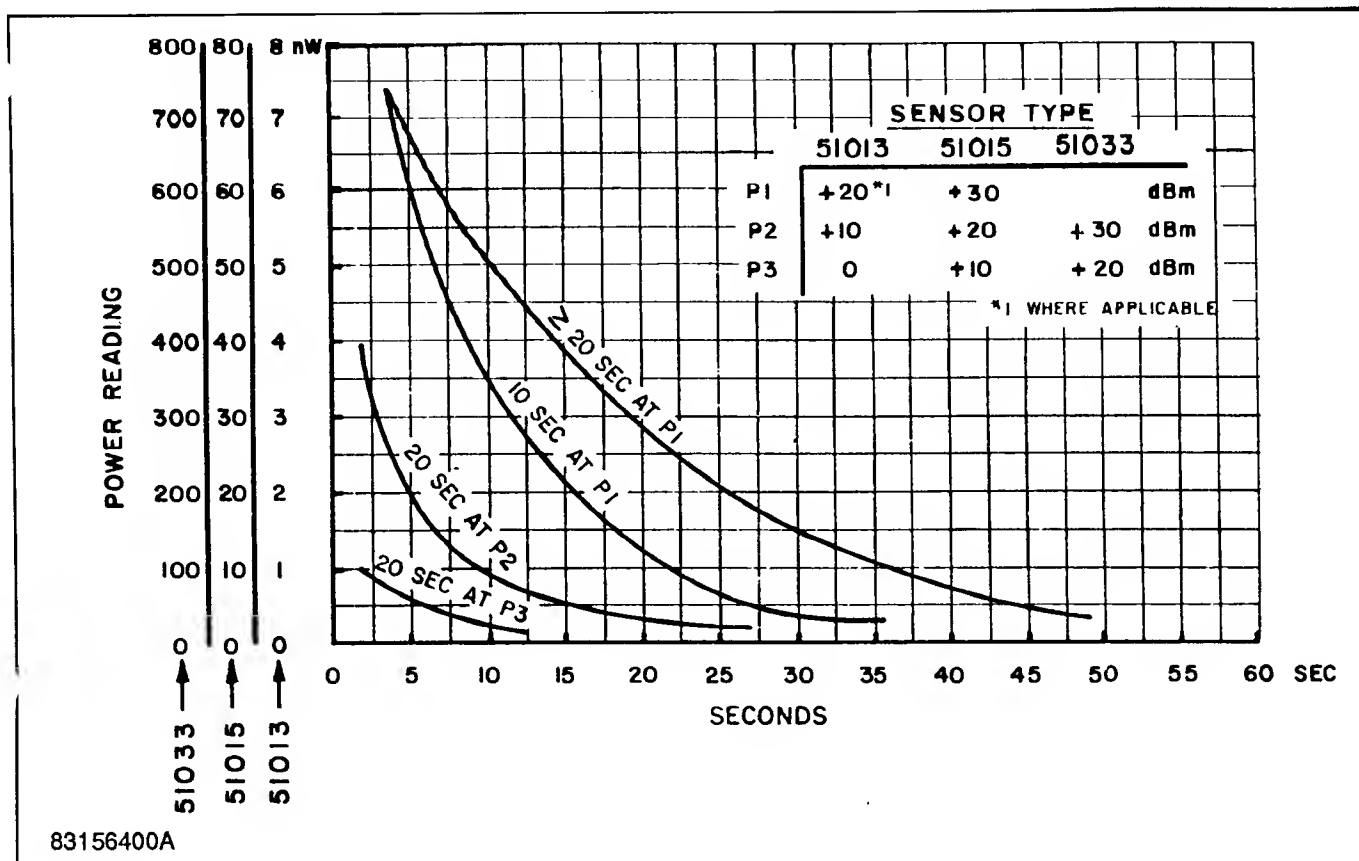

Figure 4-3. Diode Sensor Decay.
**4-12.** For full accuracy at low signal levels, power must be removed from the sensor several seconds before zeroing to allow the sensor to settle. This is especially true if a large signal had been applied to the sensor in the previous 20 seconds or so because of the dielectric absorption of the capacitors in diode sensors, and because of thermal retention in thermal sensors. The error resulting from different input conditions can be determined from Figure 4-3 or 4-4, as applicable. The curves in these figures show the decay of measured power after a large signal has been applied. The typical error that can be expected by zeroing too quickly after application of a large signal is equal to the offset power at the time of zeroing.